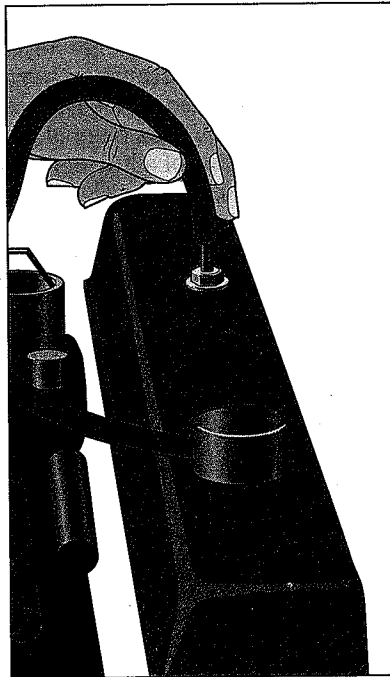

Figure 13-7: A PCV valve located on the valve cover, with the hose that leads to it removed.
- ✓ **If your engine is carbureted**, look for a $\frac{3}{8}$ -inch diameter hose that leads from the bottom area of the carburetor to the top of the valve cover or to the oil filler hole (see Figure 13-7). If your engine has *both*, you want the hose that does *not* lead to the oil filler hole.